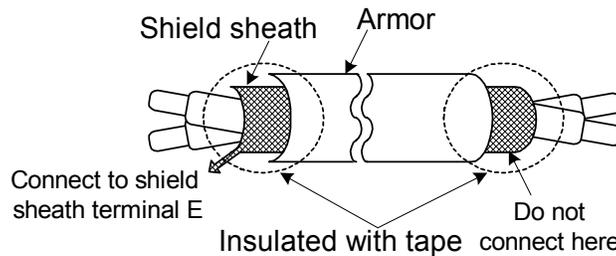

Fig. 3. Processing the ends of twisted-pair cables
- (1) Separate the control circuit wiring from main circuit wiring (R/L1, S/L2, T/L3, U/T1, V/T2, W/T3) and other high-power lines to avoid noise interruption.
- (2) Separate the wiring for control circuit terminals RA-RB-RC (R1A-R2B-R2C) (contact output) from wiring for terminals ① ~ ⑧, A01, A02, GND, DO1, DO2, DOG 15V (or +12V, -12V), VIN, AIN, AUX, GND, IP12, IG12, A (+), A (-), S(+) and S(-).
- (3) Use the twisted-pair or shielded twisted-pair cables for control circuits to prevent operating faults. Process the cable ends as shown in Fig. 3. The max. wiring distance should not exceed 50 meter.